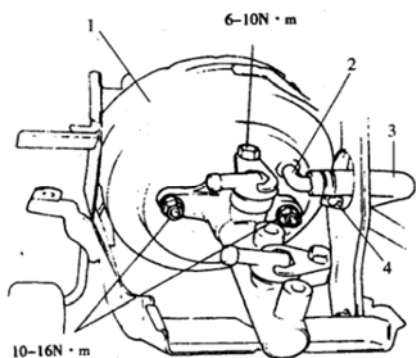

Fig.3.7-24
- (5) Install the brake master cylinder to the vacuum booster as indicated in Fig.3.7-24, and screw the connecting nut to the specified torque.